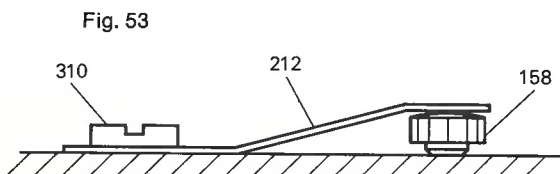

Fig. 53
- G. Install friction spring (212) and make sure that the part holding the pinion in place is parallel to the pillar plate (fig. 53).
- F. Install sweep second pinion (158) and oil (V).
- H. Install friction spring (212) and make sure that the part holding the pinion in place is parallel to the pillar plate (fig. 53).